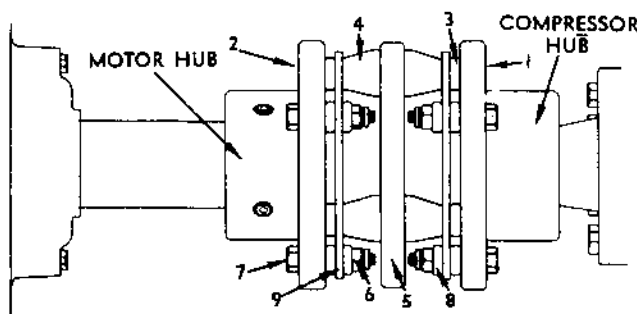

FIGURE 9 - Coupling Assembly
2. Remove the nuts (1—Figure 9) from the long through bolts (2—Figure 9) and draw the bolts through the openings in the flange of the motor hub. As the through bolts are being removed, use care to prevent the loss of the bevel washers and spacers (3 and 4—Figure 9). As the last through bolt together with its bevel washers and spacers is removed, the center flange (5—Figure 9) is freed and removed.
3. Remove the nuts (6—Figure 9) from the short bolts (7—Figure 9) in the flange of the motor hub and the flange of the compressor hub. Remove the bevel washers (8—Figure 9) and the laminations (9—Figure 9) from the bolts. Remove the short bolts from the flange of each hub.